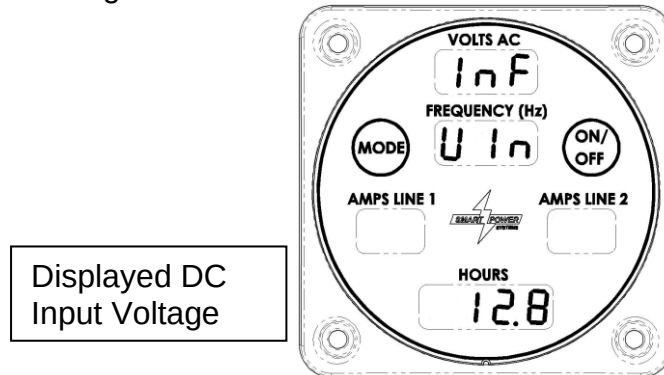

Figure 18 – DC Input Voltage Display
- c. DC supply voltage as measured by the generator system controller will be displayed next in the hours field by pressing the Mode switch a third time as seen in Figure 18.